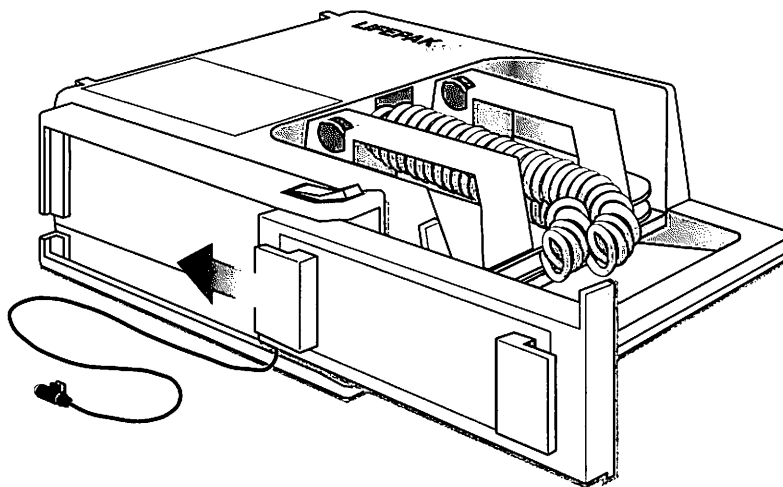

Figure 6-5. The LIFEPAK 5 interface
- 2 Slide the Propaq Defib Sync interface onto the left side of the LIFEPAK 5 as shown in Figure 6-5 until it snaps in place.